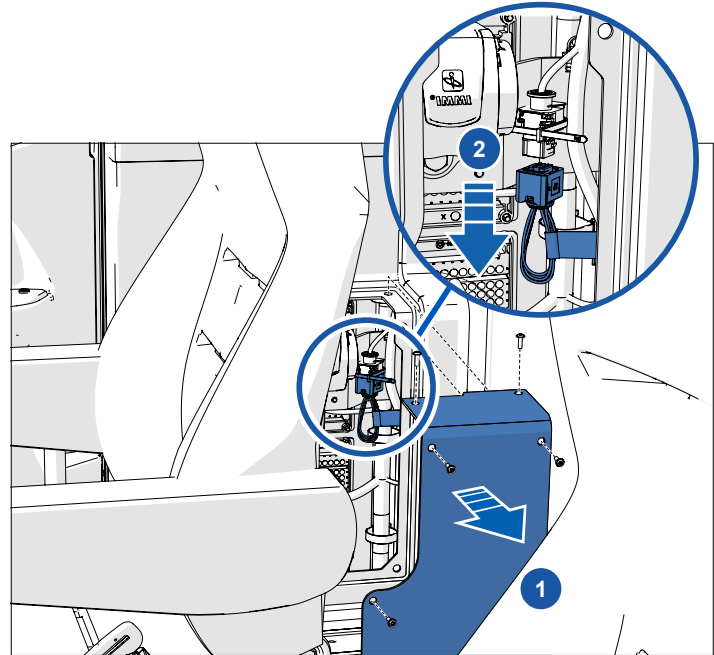

Figure 10 - LiquidSpring suspension safety disable connector
4. Remove the hydraulic suspension system safety connector, which is located under an access panel behind the passenger seat (Figure 10).